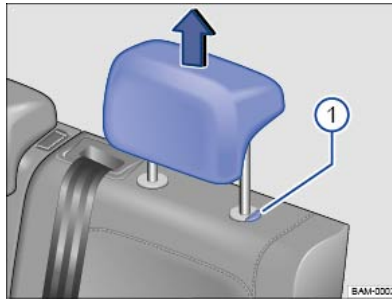

Fig. 91 Rear head restraint: removing.
- Pull the head restraint out fully while pressing the button \Rightarrow Fig. 91 ①.
- Press and hold the button \Rightarrow Fig. 91 ① and push down the head restraint.